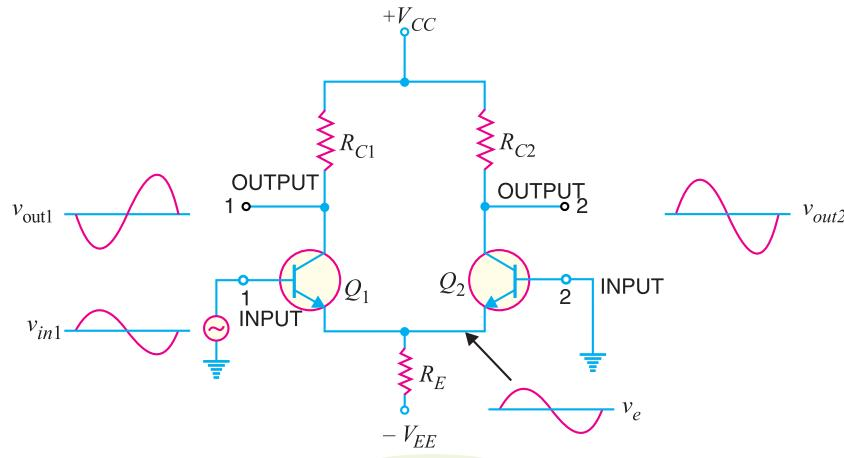

Fig. 25.5
- (i) Suppose the signal is applied to input 1 (i.e., base of transistor Q_1) and input 2 (i.e., base of transistor Q_2) is grounded as shown in Fig. 25.5. The transistor Q_1 will act in two ways : as a common emitter amplifier and as a common collector amplifier. As a common emitter amplifier, the input signal to Q_1 (input 1) will appear at output 1 (i.e., collector of Q_1) as amplified inverted signal as shown in Fig. 25.5. As a common collector amplifier, the signal appears on the emitter of Q_1 in phase with the input and only slightly smaller. Since the emitters of Q_1 and Q_2 are common, the
emitter signal becomes input to Q_2 . Therefore, Q_2 functions as a *common base amplifier. As a result, the signal on the emitter of Q_2 will be amplified and appears on output 2 (*i.e.*, collector of Q_2) in phase with the emitter signal and hence in phase with the input signal (signal at input 1). This is illustrated in Fig. 25.5.
- (a) When signal is applied to input 1 (*i.e.*, base of transistor Q_1 in Fig. 25.5), an inverted, amplified signal appears at output 1 and non-inverted, amplified signal appears at output 2. Reverse happens when signal is applied to input 2 and input 1 is grounded.